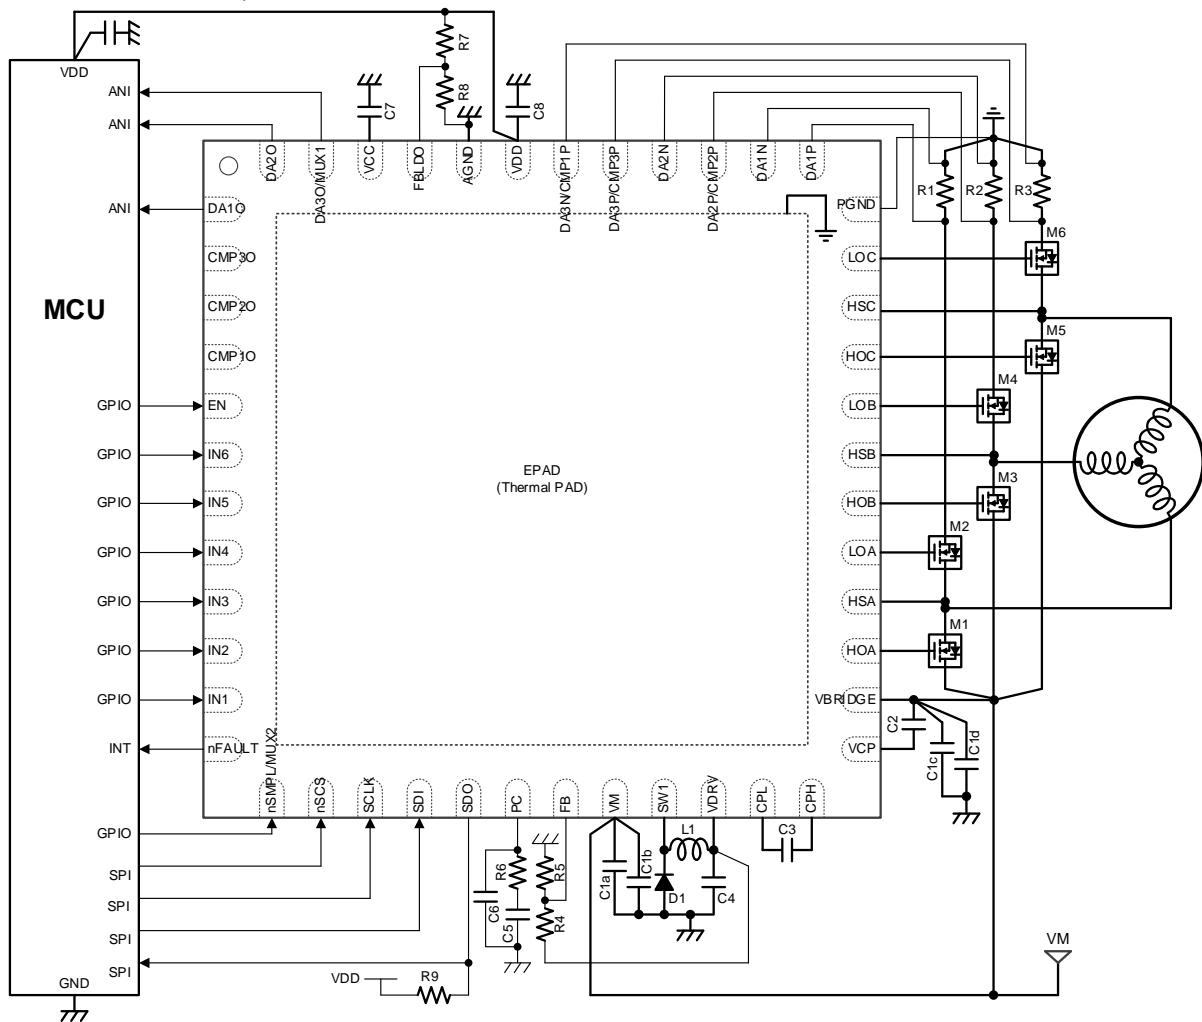

Figure 4-1 External Circuit Example of 3 Shunt Sensor-less FOC Motor Drive
**Figure 4-1** and **Table 4-1** show an example of the external circuit for 3 shunt sensor-less FOC motor drive and the external component list. The effective capacitance value of the capacitor decreases from the nominal value according to the applied voltage due to the DC bias characteristics. Please select the capacitors in consideration of the DC bias characteristics of the product. The capacitance values shown in the following descriptions are nominal values.